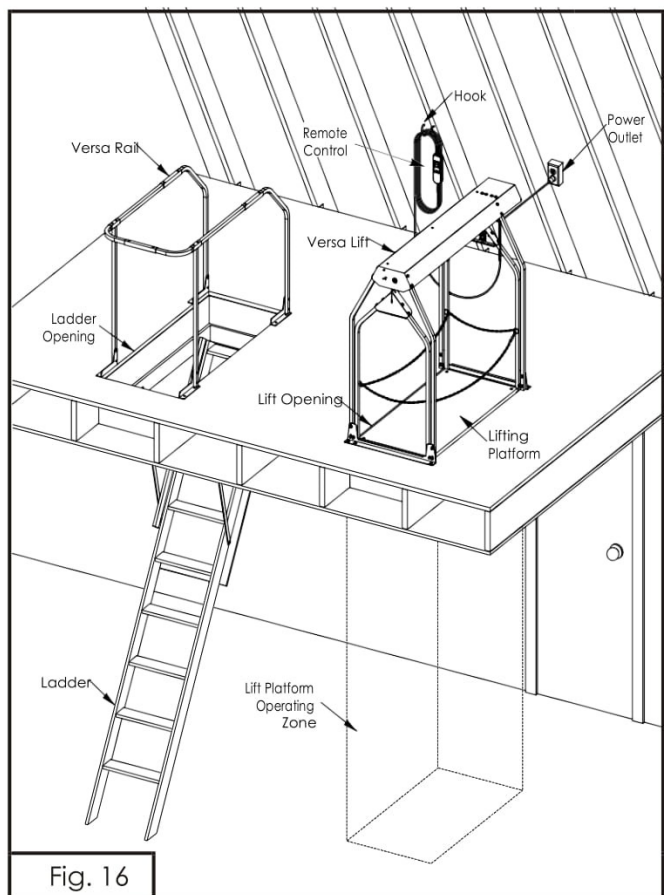

Fig. 16
The area directly under the lift from the opening to the lower floor is the "lifting platform operating zone" (Fig. 16). This area and the surrounding area must be kept clear to provide a work zone where you can load and unload storage items.
You can place a rubber mat (or rubber-backed carpet) on the floor where the lifting platform rests in the down position (so long as it does not exceed 1/4" thickness). The mat will mark the "lifting platform operating zone" (Fig. 16) and can keep the platform from sliding on hard surfaces when it is being loaded.
- C-3. **Corded** - Turn the key switch to lock. Store the remote and cord in a safe manner (see Fig. 16). If you have children in the home, remove the key and store it safely out of reach.